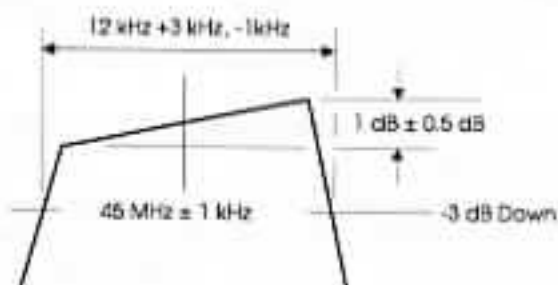

Figure 2: 45 MHz Crystal Filter Response
5. Tune trimmer capacitors C85, C72, and C67 for maximum response. The response should appear as shown in Figure 2 which follows. Note that the ideal response would be flat. However, tilt, as shown in the sketch, is the more likely response and is acceptable within the limits shown.